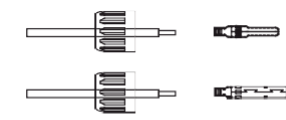

Figure 5.13 Insert the Wire into the Connector Cap nut and contact pin
2. Insert the wire into the connector cap nut and contact pin. (see Figure 5.13)